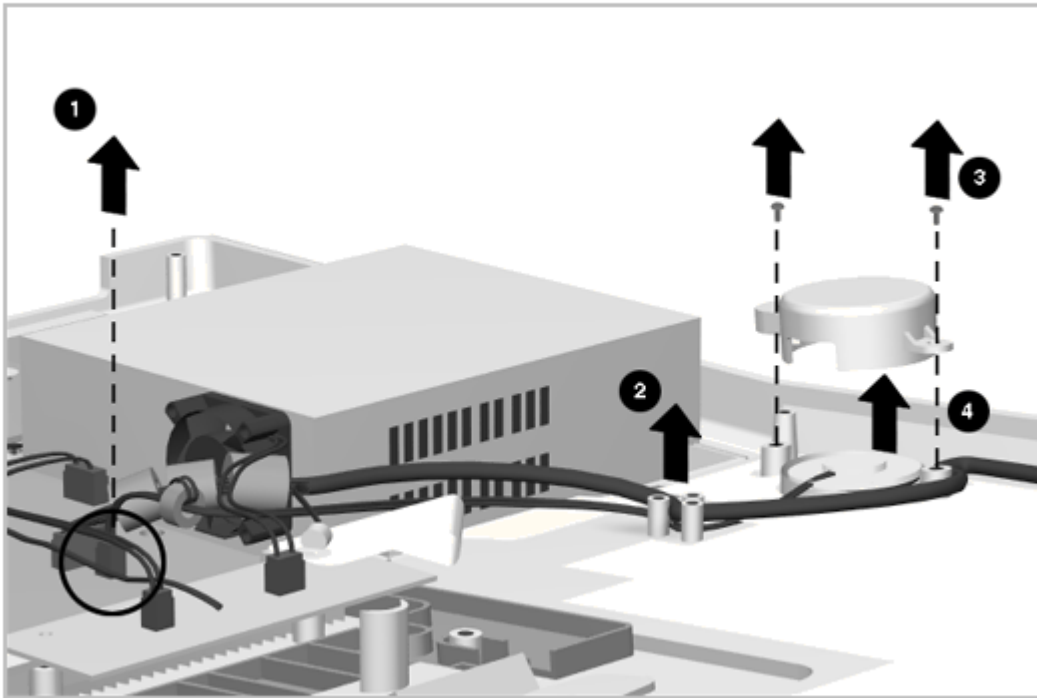

Figure 6-28. Removing the Speaker Assembly
3. Note the cable routing [2] and disconnect the speaker cable [1] from the main board (Figure 6-28).
4. Remove the two screws from the speaker bracket [3] and lift the bracket and board out of the bottom cover assembly [4] (Figure 6-28).